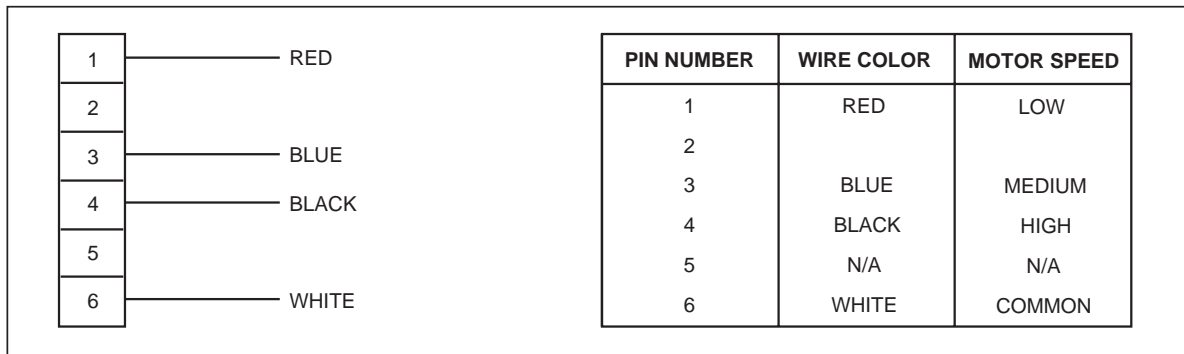

Figure 7. Motor Lead Connector - Standard Motor
2. Remove the motor lead from terminal #4 of the blower relay. Cut the wire tie holding the motor lead bundle. The motor leads are color coded as shown in **Figure 7**.